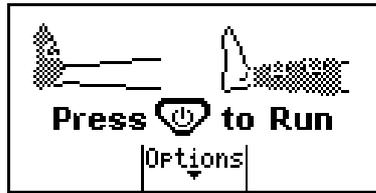

Figure 14 - Foot and Single-Chamber Calf or Thigh/Calf Garments Connected
2.3.2 Figure 14 shows a foot garment and a single-chamber calf or thigh/calf garment connected to the pump.